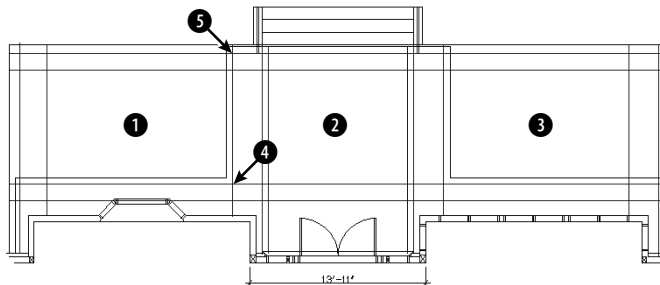
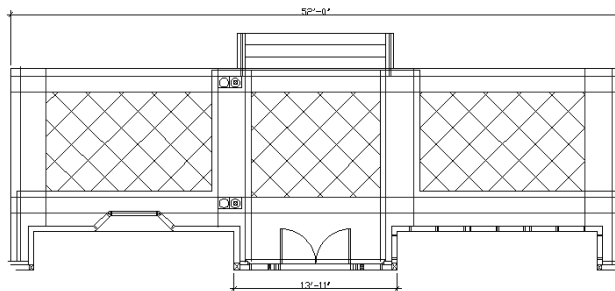

Figure 26-8: This back porch needs some columns (which are blocks), some hatching, and a dimension.
Figure 26-9: The drawing now has hatches and blocks inserted from the tool palette. It also has a new dimension.
2. Save the file as `ab26-02.dwg` in your AutoCAD Bible folder. This drawing, shown in Figure 26-8, needs some blocks (which are hatching, and a dimension.
12. Drag the User Defined hatch icon to ❶ in Figure 26-8. Then do the same for ❷ and ❸. These areas are hatched, as shown in Figure 26-9.
15. Switch back to the 2d arch tab and click the Post icon. At the Specify insertion point: prompt, pick the intersection at ④ in Figure 26-8. Click the Post-Structural icon. At the prompt, pick the upper-right corner of the post block, as shown in Figure 26-9.
16. Click the Post icon. At the prompt, pick ⑤ in Figure 26-8. Use the same technique to place the Post-Structural icon at the upper-right corner of the post block. (The posts would then need to be spaced and mirrored to the other side of the porch, but these tasks are not necessary for this exercise.)
19. Save your drawing. It should look like Figure 26-9.